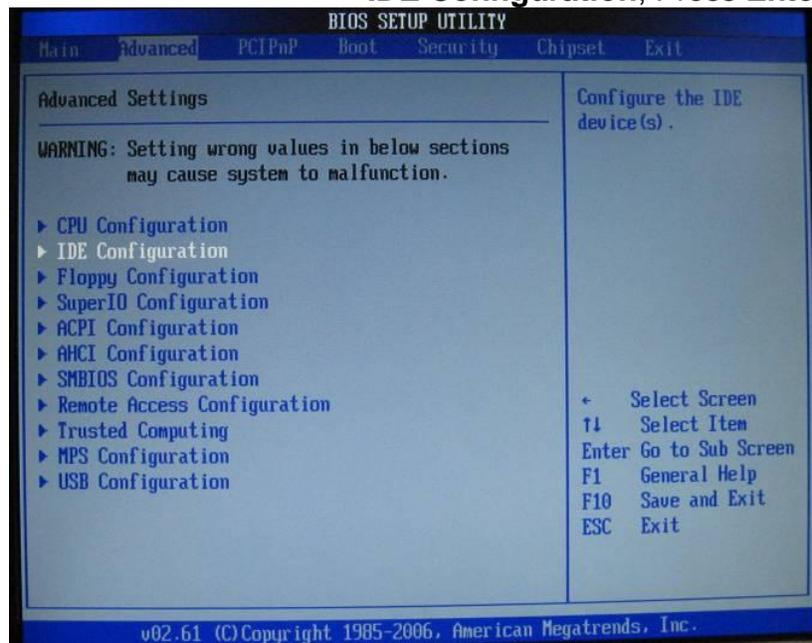

Figure 8-17 IDE Configuration Page
7. On **Advanced Settings** screen Scroll down to **IDE Configuration**, Press **Enter**. (Figure 8-17).